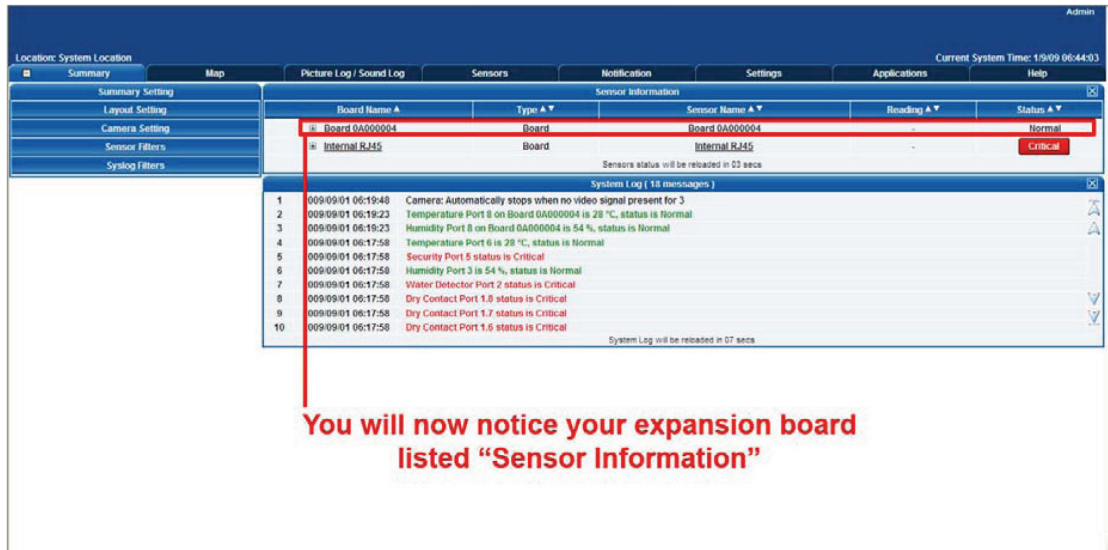

Figure 3-6. Summary page.
3. Log in as the administrator using your administrator password (the default is "public"). The Summary page will appear as shown in Figure 3-6.